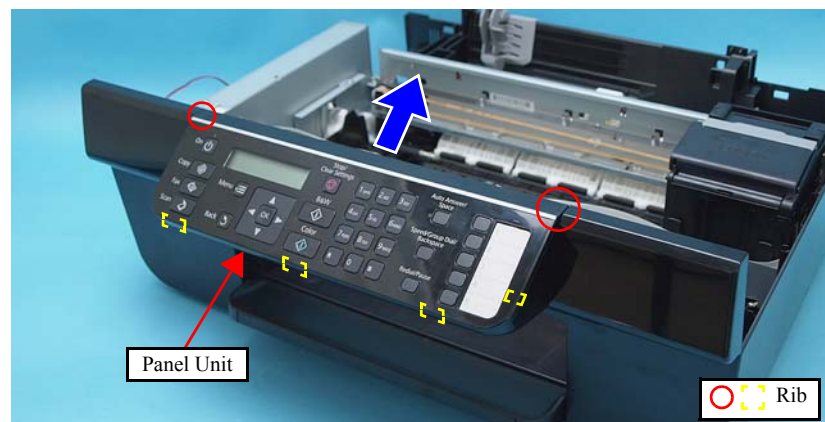

Figure 4-25. Removing the Panel Unit (1)
- When installing the Panel Unit to the Front Housing, make sure to match the ribs ○ (x2) of the upper side and the ribs □ (x4) of the lower side of the Panel Unit with the dowels of the Lower Housing as shown in Figure 4-25.